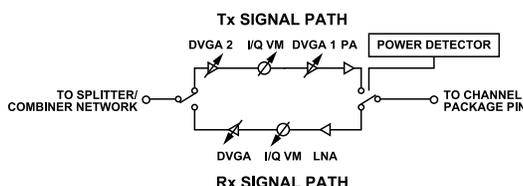

Figure 77. Transmit and Receive Channel Functional Block Diagram
All 16 channel signal paths are identical to provide symmetrical performance between channels, which reduces the amount of phase and amplitude calibration to allow TDD operation. As shown in Figure 77, each transmit channel includes a DVGA 2, an in phase and quadrature (I/Q) VM, a DVGA 1, a power amplifier (PA), a power detector, and two single-pole, double throw (SPDT) switches. Each receive channel includes a low noise amplifier (LNA), an I/Q VM, a channel DVGA, and two SPDT switches. The switches select between transmit and receive paths. These paths connect the RF signal paths to the corresponding package input/output pins (RFV, RFH, and 16 channels) through a passive combining and splitting network.